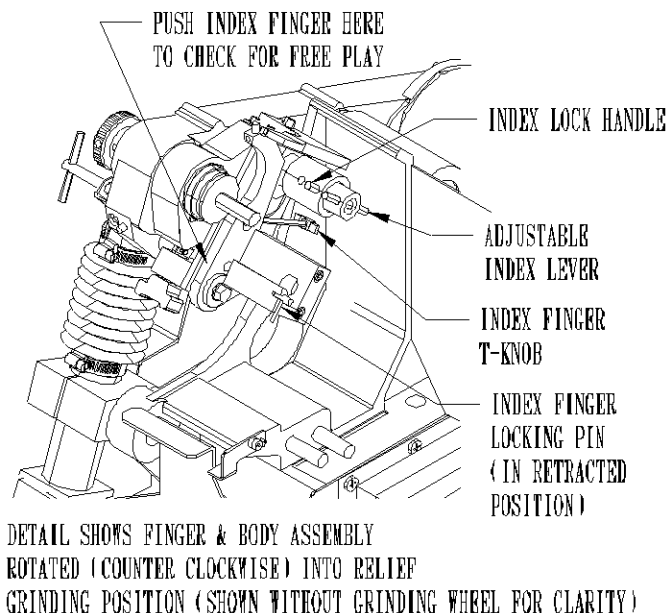

FIG. 6
The Finger and Body Assembly of the grinding head rotates on the Grinding Head Housing to change positions between spin grinding and relief grinding. To change the position of the finger and Body Assembly you have to pull out the Plunger Pin on the left side of the Grinding Head Housing. See FIG. 5. When you are going to perform spin grinding operations the Finger and Body Assembly must be rotated clockwise (looking at it from the right). This rotates the fingers out of the reel blade path. See FIG. 5 When you are going to perform relief grinding operations the Finger and Body Assembly must be rotated counter clockwise. This rotates the finger into position to touch and control the reel blades. See FIG. 6
STEP 1: Once you have the Grinding Head positioned with a reel blade resting on the Fixed Relief Finger high point, you want about 1/32" [0.8mm] to 1/16" [1.5mm] free play of the Index Finger behind the reel blade. The Index Finger is spring loaded to the up position. To check free play, push down on the Index Finger. See FIG. 6. To make this adjustment you have to first turn the Index Lock Handle counter clockwise to unlock the adjustable Index Lever. See FIG. 6 If there is no free play of the Index Finger you want to rotate the Adjustable Index Lever clockwise. If there is more than 1/16" [1.5 mm] free play you want to rotate the Adjustable Index Lever counterclockwise. When the Index Finger is in proper position rotate the Index Lock Handle clockwise to lock the Adjustable Index Lever.
The up travel limit is restricted to keep the Index Finger in the reel blade index path. This is done to properly catch the next blade when indexing or to allow clearance between the back side of the Index Finger and the front side of the blade when the grinding carriage is making its return trip to the home position. If the Index Finger has problems catching the next blade turn the Index Finger T-knob counterclockwise. If there isn't enough clearance between the back side of the Index Finger and the front side of the reel blade turn the Index Finger T-Knob clockwise. See FIG. 6. Adjust the T-knob in by 1/8" (3mm) into the hole opening so the up travel is restricted. Check the up and down swing of the Index Finger for clearance on both sides of the reel blade for the relief grind.